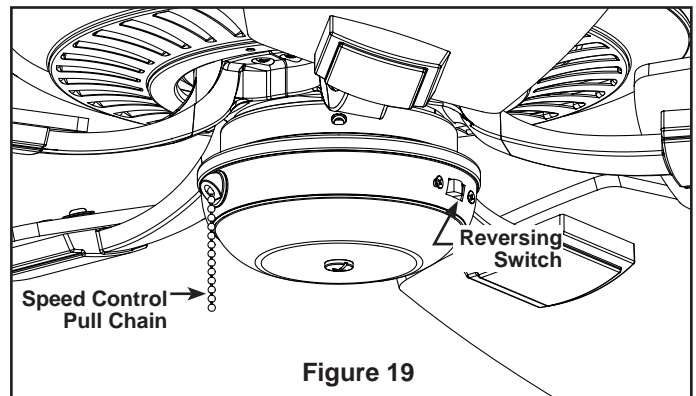

Figure 19
3. If airflow is desired in the opposite direction, turn the fan off and wait for the blades to stop turning. Then slide the reverse switch to the opposite position and turn fan on again. Your fan model is equipped with a 4-position, 3-speed, pull chain switch. (Figure 19)